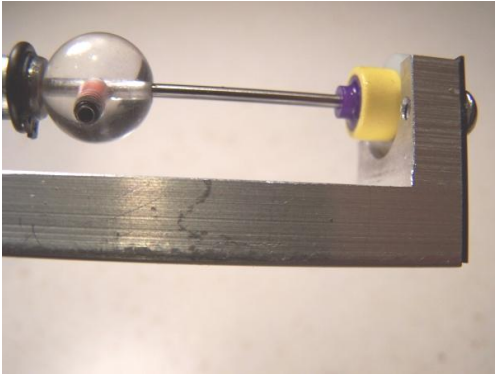

Fig 3
- 3 Place the ball onto the plunger with the larger beveled hole facing the axel. Slightly place the axel into the Hub. Check that the white alignment tool is properly seated into the slot. Slowly move the plunger and ball over the axel and squeeze the trigger to install the axel into the wheel as desired. Fig 3